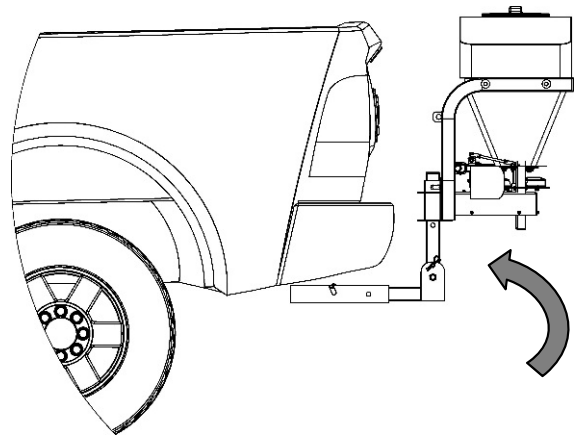

FIGURE 9.2
3. Once the desired placement of the hopper is set, rotate the Spreader Assembly upward towards the vehicle and secure by pinning the assembly at the pivot point with the supplied 5/8" Pin (NB702). **FIGURE 9.2**.